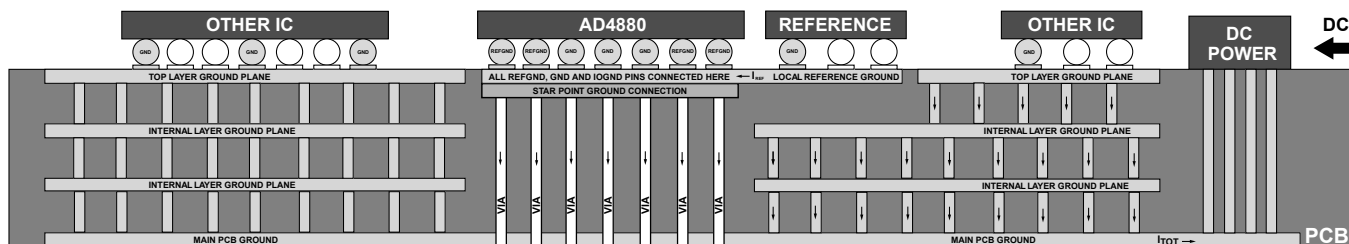

Figure 130. Recommended PCB Ground Planes Layout
- ▶ See Figure 130 for the side view cross-section of the PCB board showing the ground planes distribution. Note that Figure 130 only shows the ground planes but does not include the signal tracks.